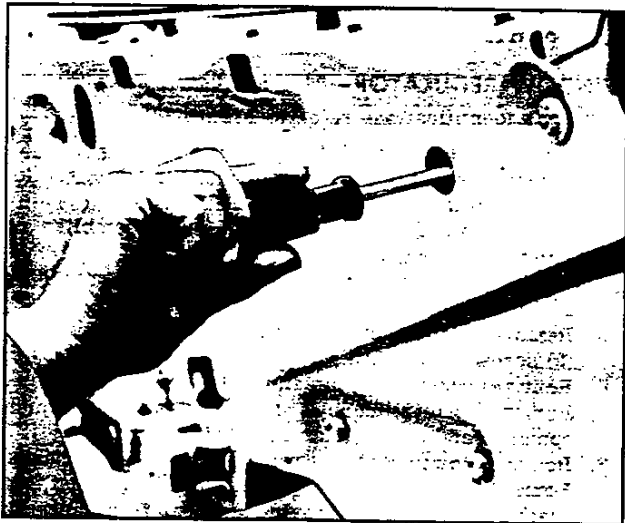

Fig. 24—Removing Sash Screws
3. Position window all the way up to line up two (2) sash screws through access holes.
4. Remove two (2) sash screws on horizontal guide channel while holding nut with other hand (fig. 24).
5. Disengage stop by removing one (1) Phillips head screw at top of channel assembly.